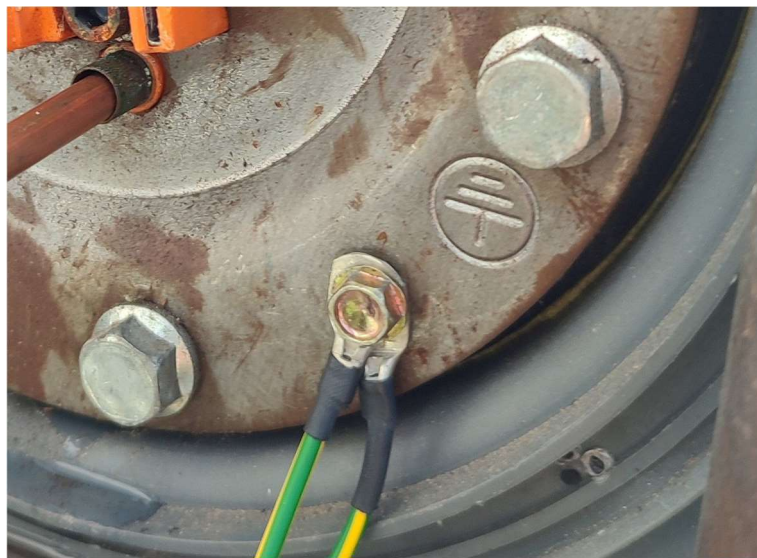

Figure 4.3. STEP 11: Connect the two earth wires (green & yellow) from the Elon Smart thermostat and the earth from the AC cord to the geyser earth point.
11. Connect the 2 Earth wires (green and yellow) coming out the right side of the Elon Smart and the earth from the AC cord to the geyser earth point (see **Figure 4.3**).